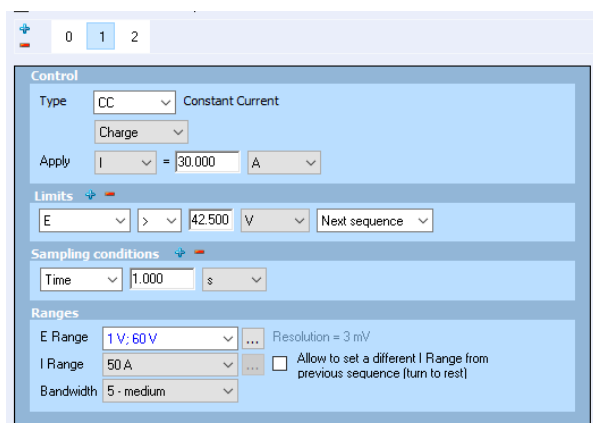
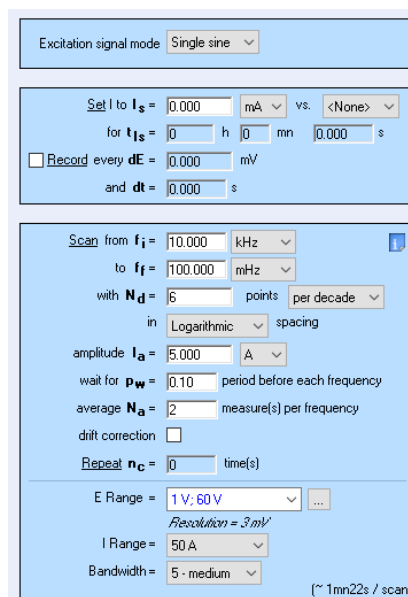

Figure 4: cycling settings (ModuloBat technique).
Figure 5: EIS settings (Galvano EIS technique).
Cycling is performed at the pack's maximum regime *i.e.* 30 A (pack specifications are given in II.3) with ModuloBat (MB) technique (Fig. 4) between 42.5V and 37.0 V. each cycle is followed by one EIS measurement in galvanostatic mode (GEIS, Fig. 5) [4].